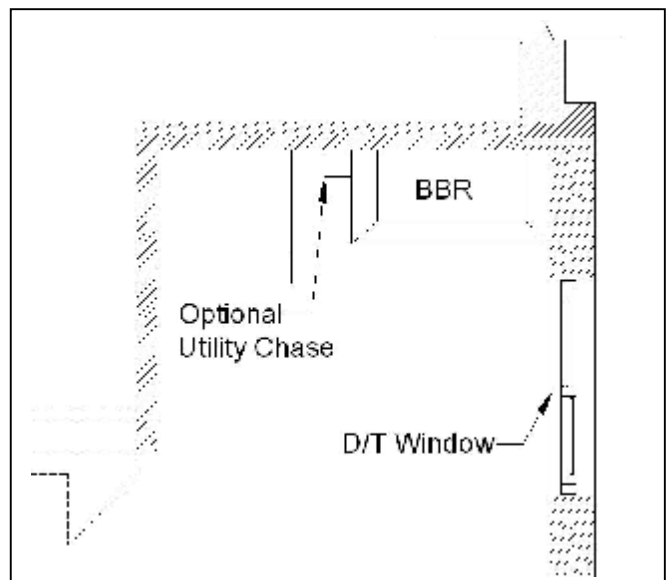
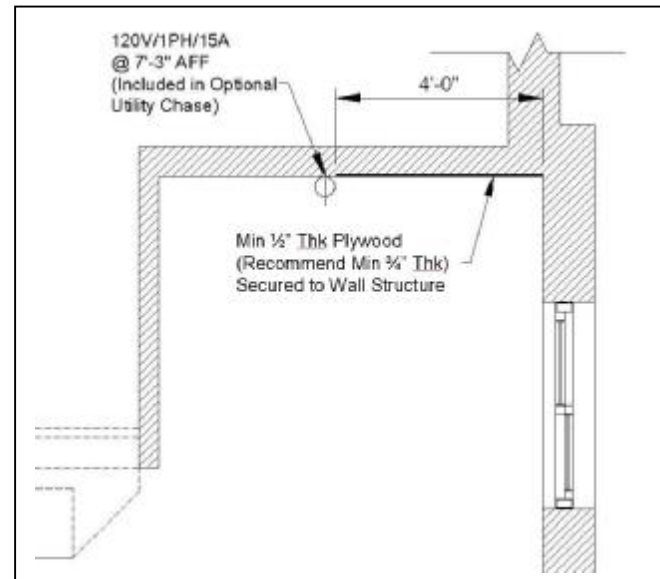

Figure 1 – Case Mounting Location
Figure 2 – BBR Standard Wall Mounting
- § Before you wall mount this unit, locate the appropriate 120-volt power outlet, per the rough-in drawing (Figure 2). This may be a wall mounted outlet or one provided on the optional vertical electric chase. (See Figure 1, previous page)
The mounting wall must be prepared according to the rough-in drawings shown in Figure 2 at right, using 1/2-inch thick [minimum] plywood securely anchored to the wall structure, from 5-feet (60-inches) to 8-feet (96-inches) above the finished floor. [NOTE: Use of 3/4-inch plywood is recommended.]